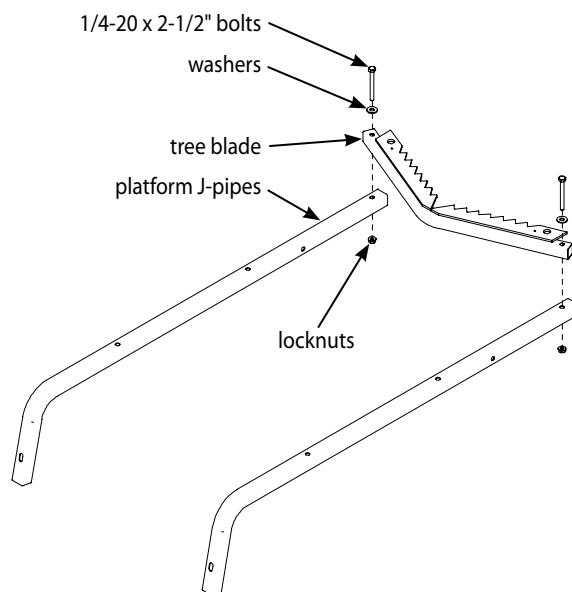

Figure 2
3. Attach the tree blade (2ML130) to the top of platform J-pipes using (2) provided 1/4-20 x 2-1/2" bolts, locknuts and steel washers. **SEE FIGURE 2.**